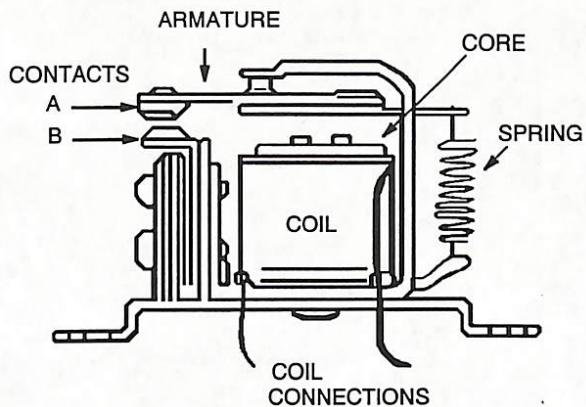

Figure 2. Basic Relay
**Construction.** A relay consists of five main parts. These parts are illustrated in Figure 2. An explanation of each part follows.
**Armature.** This is the moving part of the relay that operates the contacts. (See A in Figure 2). The armature of most relays is constructed on the principle of the lever. It is made stationary on one end and pivots through an arc on its mounting.
**Contacts.** These are used to open or close the relay secondary circuits. Contacts may be of the movable or stationary types. The stationary contact (B in Figure 2) is mounted on the base and insulated from the rest of the relay. The contacts can be made of gold, silver, silver alloys, or platinum alloys, and often are plated with cadmium or nickel. Relay contacts are rated by maximum current handling capabilities and voltage ratings. These ratings depend upon the types of contact material, size, and spacing of the open contacts. It is very important not to exceed these ratings, as the contacts will arc and become worn or pitted. In this condition, they can not function properly.
**Spring.** This provides the constant restraining force that keeps the armature in the normal or de-energized position (Figure 2). (De-energized describes a relay without voltage applied to the coil as opposed to an energized relay with voltage applied). When the relay is energized the spring opposes the motion of the armature as it moves into the closed position. When the relay becomes de-energized, the spring returns the armature back to the open position.